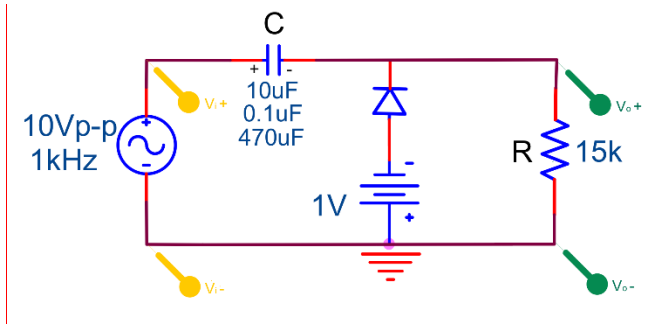

Figure 3.14
7. Construct the clamper circuit shown in Figure 3.14. Insert the measured values into the following table.
6. Run a PSPICE simulation of Figure 3.14 with $10\mu F$ only.